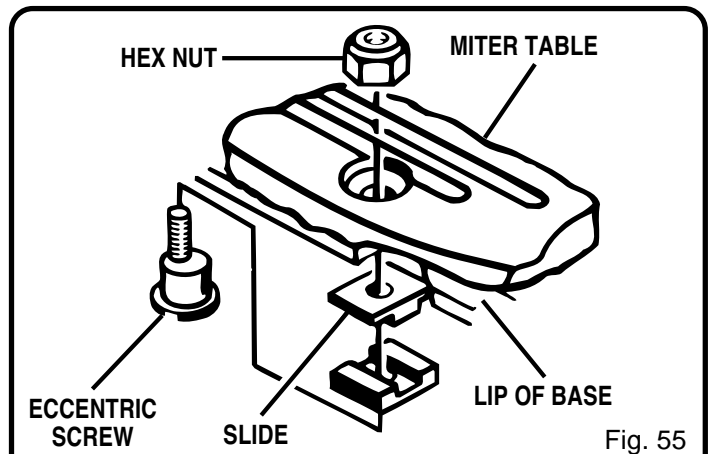
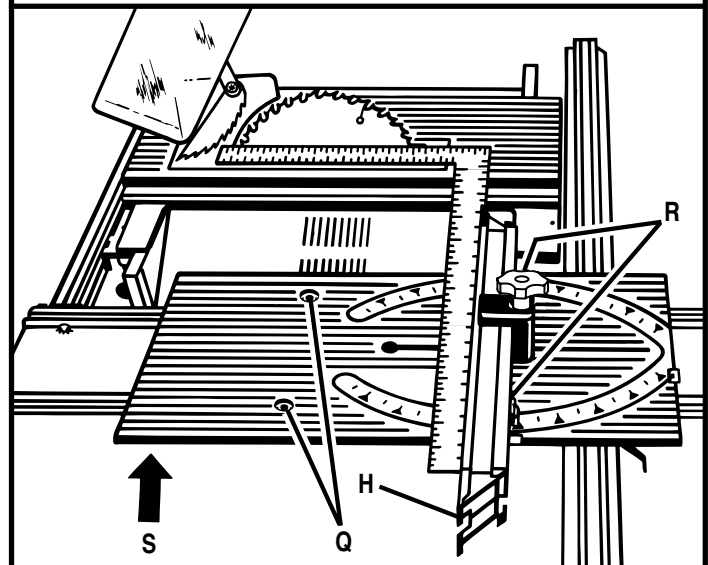

Fig. 55
Fig. 56
- There are four slides located under the sliding miter table. These slides let the miter table move on the base. Three slides are mounted on eccentric screws that can be adjusted by loosening the hex nuts on top of the miter table. See Figure 55.
- Loosen the rear hex nuts (Q) on top of sliding miter table for this adjustment procedure.
**Note:** The front screws (R) are only needed to remove excessive play in the slides due to wear from extended use. They are **not** needed for this procedure. The right front hex nut is a non-eccentric pivot and should never be loosened.
- Push left rear of miter table snugly against miter base as shown by the arrow (S) in figure 56 and secure.